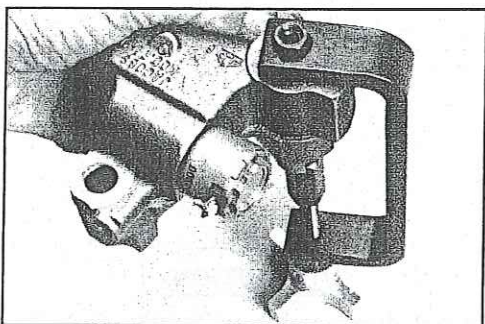

Fig. 54
1. Place the hole in the clamp fixture over the slave piston adjusting screw. Replace locknut. Snug tighten to hold fixture securely. See Fig. 54.